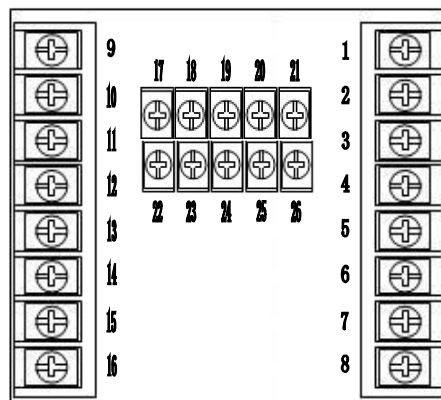

Figure 2 Wiring diagram behind the instrument
5.4 Electrical connection: the connection between the meter and the sensor electrode: the power supply, output signal, relay alarm contact and the connection between the sensor electrode and the meter are all at the rear of the meter, and the wiring is as shown in Figure 2. The lead length of the electrode fixed cable is usually 5-10 meters, and the terminal has a labelled insert, which can be inserted into the terminal with the same number and symbol at the rear of the instrument and tightened.